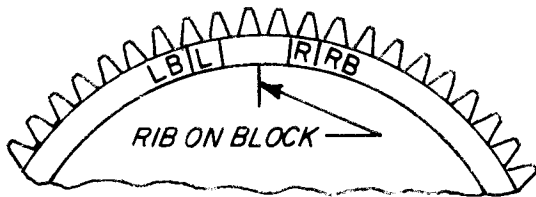

Figure 5-2 Timing Marks--6 cyl. 1200 Series
(1) Remove a spark plug from No. 1 cylinder and place a thumb over the spark plug hole. Rotate the crankshaft in direction of normal rotation until the compression stroke is reached, this is indicated by a positive pressure inside the cylinder tending to push the thumb off the spark plug hole. Continue rotating the crankshaft until the advance timing mark on the front face of the starter ring gear is in alignment with the small hole located at the two o'clock position on the front face of the starter housing. (Ring gear may be marked at 20° and 25°. Consult specifications for correct timing mark for your installation.) At this point, the engine is ready for assembly of the magnetos.
(2) *Single magneto* - Remove the inspection plugs from both magnetos and turn the drive shaft in direction of normal rotation until (-20 and -200 series) the first painted chamfered tooth on the distributor gear is aligned in the center of the inspection window (-1200 series) the applicable timing mark on the distributor gear is approximately aligned with the mark on the distributor block. See figure 5-2. Being sure the gear does not move from this position, install gaskets and magnetos on the engine. Note that an adapter is used with all magnetos. Secure with (clamps on -1200 series) washers and nuts; tighten only finger tight.